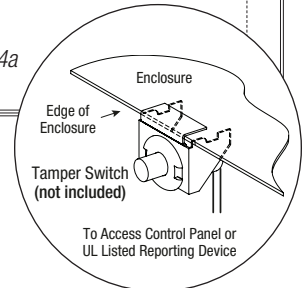

Fig. 5 - Maximal77
+ BAT –	Stand-by battery connections. Connect one (1) 12VDC battery to the terminals marked [+ BAT –] for 12VDC operation (Fig. 3, pg. 10, Fig. 5, pg. 12). Use two (2) 12VDC batteries wired in series for 24VDC operation (Figs. 3-5, pgs. 10-12).